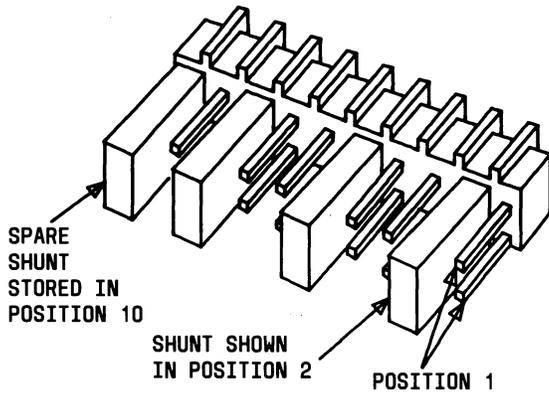

Fig. 2—Detail of Right Angle Header for Installing Options
2.03 Figure 2 is a representation of H1 and shows the ten positions and the shunts. To install options listed in Table A, slip the shunts over the two pins which make up one position. Four shunts are provided with the header. One shunt is a spare and should be stored in position 10.